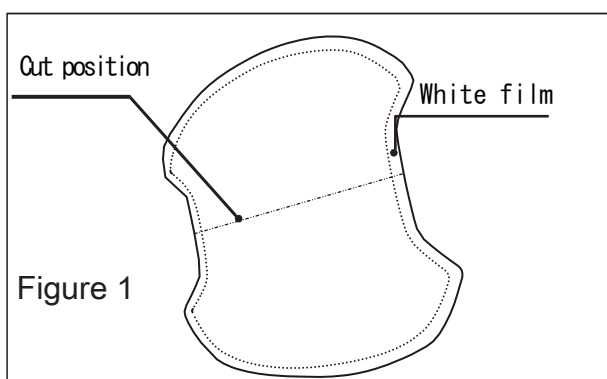

Figure 1
1) Divide the white film (release paper) on the back side to upper and lower halves. (Figure 1)